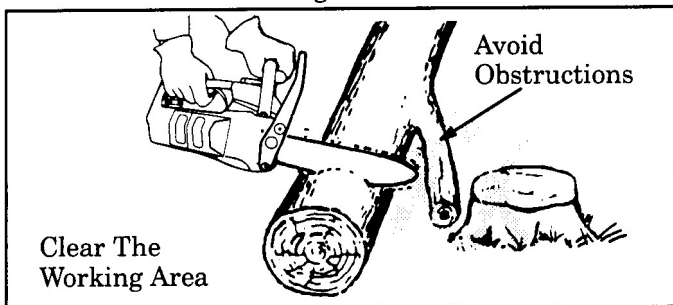

Figure 2
3. **Keep the working area free from obstructions** such as other trees, branches, recks, fences, stumps, etc. Figure 2. Eliminate or avoid any obstruction that your saw chain could hit while you are cutting through a particular log or branch.